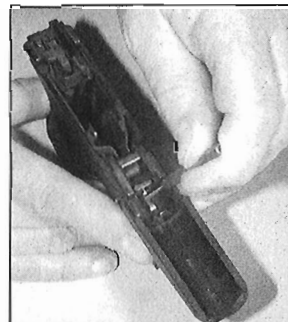

Figure 1
- Press the slide lock spring down as far as possible using the installation tool provided (Figure 1).